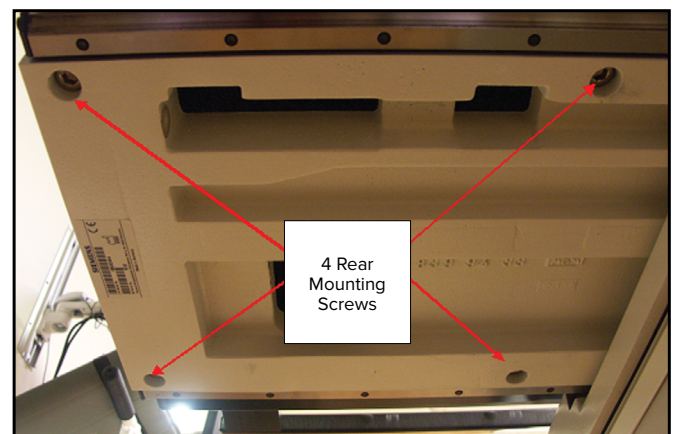

Fig. 20
3. Install the (8) M10 x 45 mm SHCS using the 8 mm Allen wrench. The holes are labeled in Fig. 20.